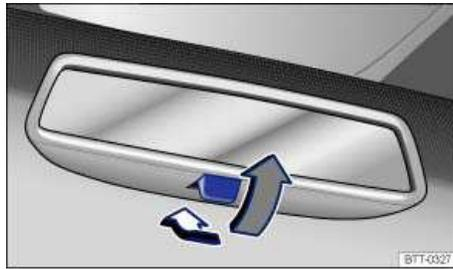

Fig. 97 Manually adjustable inside mirror.
- To adjust to non-glare visibility, move the lever so that it points backward ⇒ fig. 97.